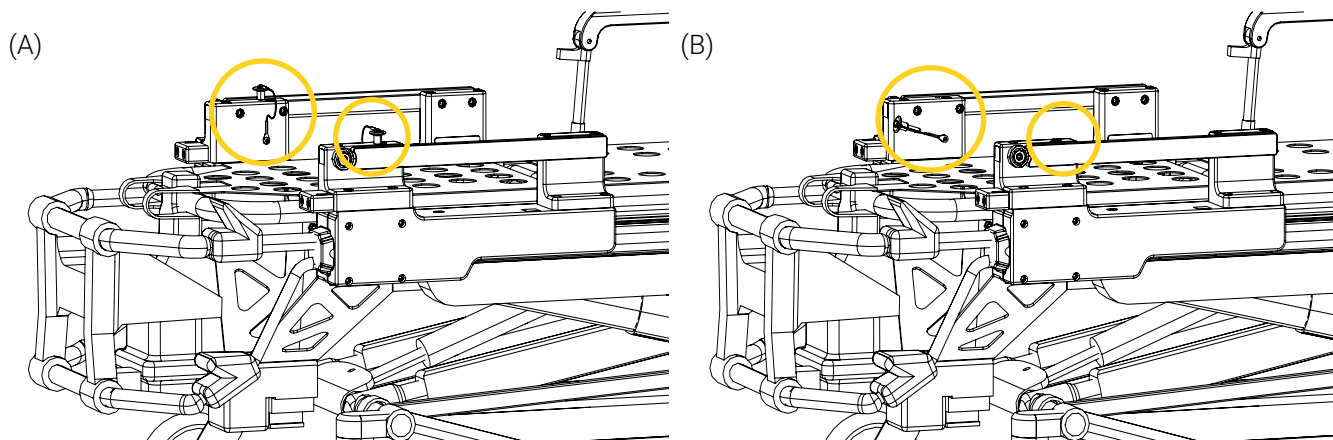

Figure 40: Removing the lock pins
7. Remove the lock pin from the XTPA-PPXT Rail clamp blocks on both sides of the stretcher (Figure 40) if needed.